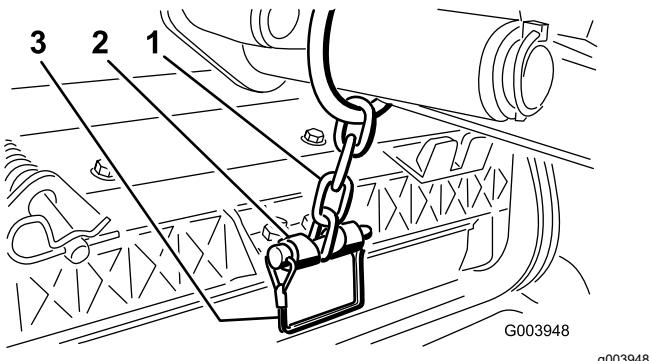

Figure 12
- Secure the lift-arm chain to the chain bracket with the snapper pin (Figure 12).